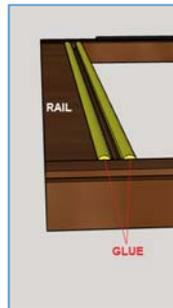
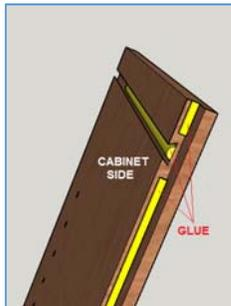

Fig 2. Rail
Fig 3. Left Side
4. APPLY GLUE TO FACE FRAME RAILS AS SHOWN ON FIG 2 FEMALE DOVETAILS ON LEFT SIDE AS SHOWN ON FIG 3.
6. APPLY GLUE TO SIDE RABBETS AND DADOS OF THE RIGHT SIDE AS SHOWN IN FIGS 3 AND 4.